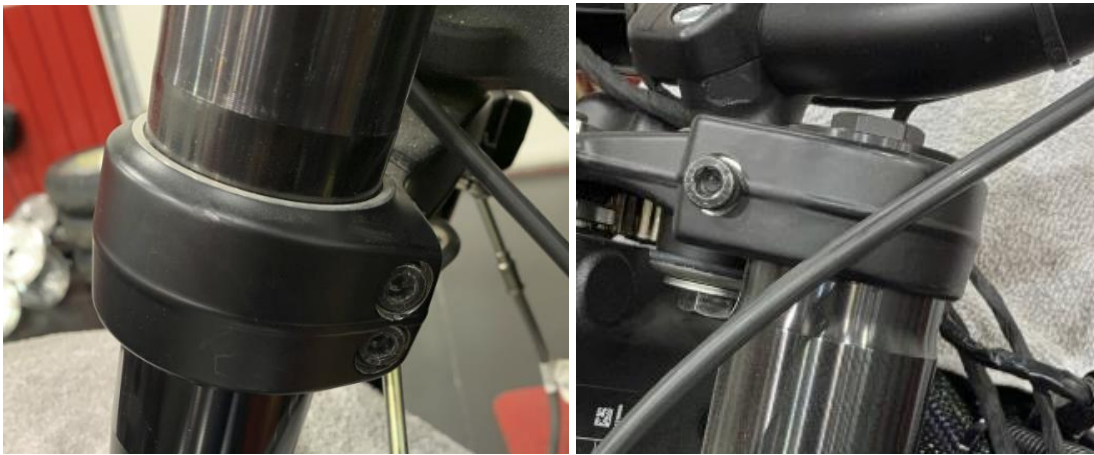

Figure 17: Loosen the down tube clamp bolts (left side shown, right side similar).
20. Loosen the down tube clamp bolts on the top and bottom triple trees. There are 4 total on the lower and 2 on the top. See Figure 17.